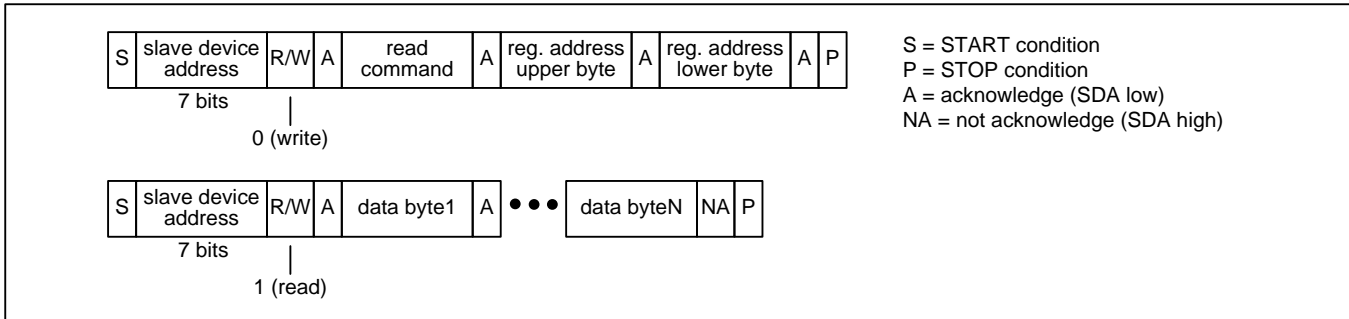
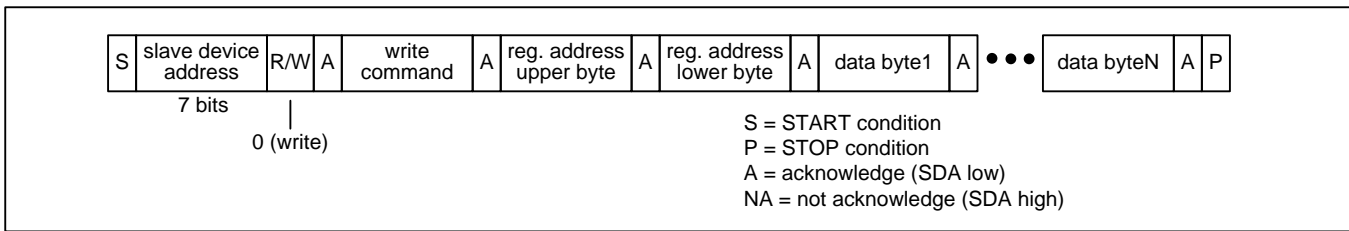

Figure 6 - I2C Read Transaction Functional Timing
Figure 7 - I2C Write Transaction Functional Timing
**Read Transactions.** The bus master first does an I2C write to the device. In this transaction three bytes are written: the SPI Read command (see Table 3), the upper byte of the register address, and the lower byte of the register address. The bus master then does an I2C read. During each acknowledge (A) bit the device fetches data from the read address and then increments the read address. The device then transmits the data to the bus master during the next 8 SCL cycles. The bus master terminates the read with a not-acknowledge (NA) followed by a STOP condition (P). See Figure 6. After the I2C write there can be unlimited idle time on the bus before the I2C read, but the device cannot tolerate other I2C bus traffic between the I2C write and the I2C read. Care must be taken to ensure that the I2C read is the first command on the bus after the I2C write to ensure the two-part read transaction happens correctly.
**Write Transactions.** The bus master does an I2C write to the device. The first three bytes of this transaction are the SPI Write command (see Table 3), the upper byte of the register address, and the lower byte of the register address. Subsequent bytes are data bytes to be written. After each data byte is received, the device writes the byte to the write address and then increments the write address. The bus master terminates the write with a STOP condition (P). See Figure 7.
Note: In Figure 6 and Figure 7, a STOP condition (P) immediately followed by a START condition (S) can be replaced by a repeated START condition (Sr) as described in the I2C specification.